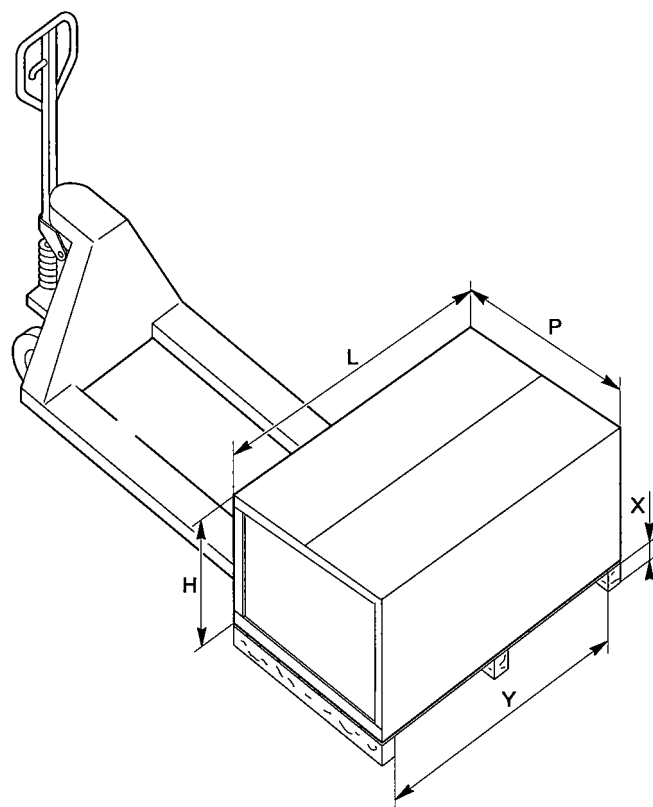

Figure 4.1
4.1. ARM PACKAGING (figure 4.1)
4.2. HANDLING OF PACKING (figure 4.1)